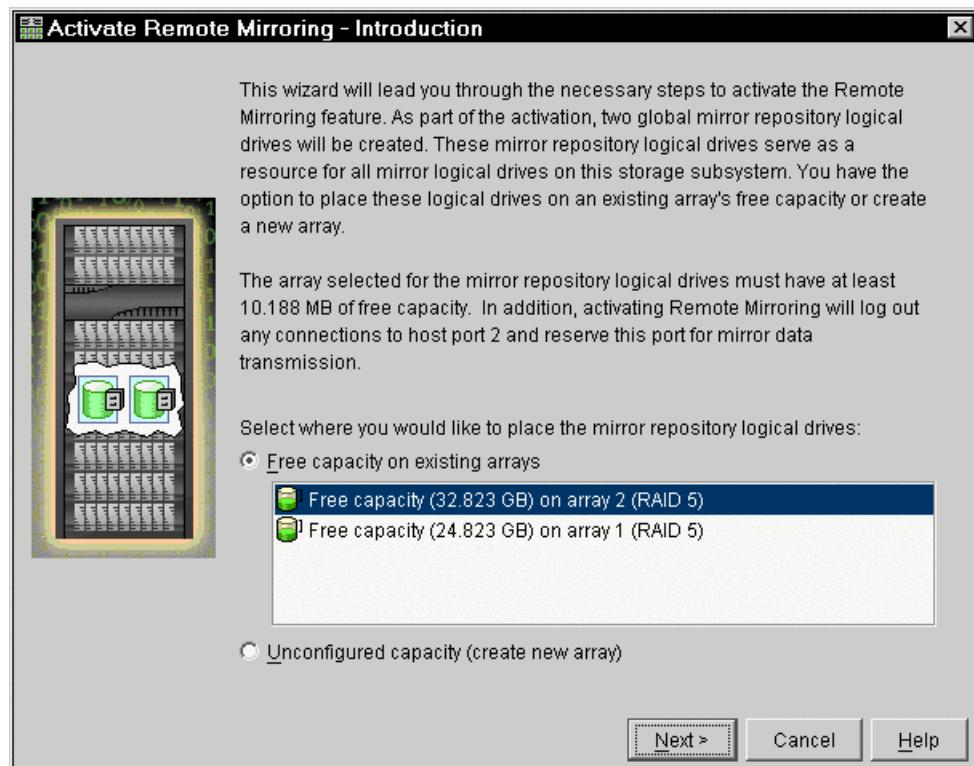

Figure 6-13 Activate Remote Logical Drive Mirroring - Introduction window
- The Activate Remote Logical Drive Mirroring - Introduction window opens (Figure 6-13). Decide where the mirror repository logical drives will reside. Select one of the following options: